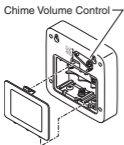
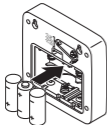

Figure 2
Figure 3
2. **Install 3 alkaline "C" batteries.** Press in latch on rear of chime and lift off battery cover (see Figure 2). Install 3 alkaline "C" batteries (not included) into chime. Make sure batteries are installed according to the diagram inside the chime (see Figure 3). Replace battery access door onto back of chime.
4. **Adjust volume control to desired volume** (see Figure 2).